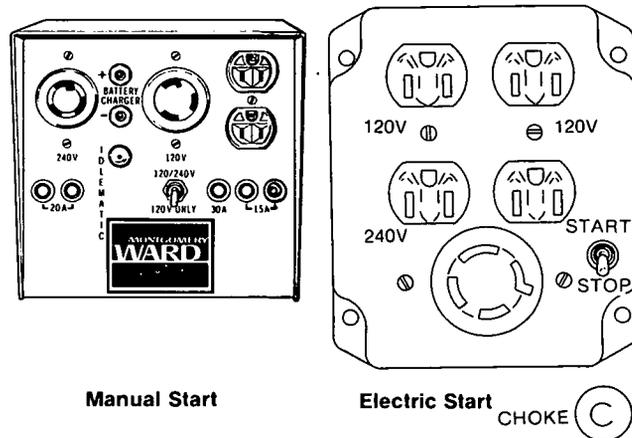

FIGURE 2. RECEPTACLE PANELS
1. Pull choke control all the way out unless the engine is already warm from previous operation. Manual start models have the choke knob located near the front of the engine. Electric start models have the choke knob located near the receptacle panel as shown in Figure 2.
Refer to Figure 2 for the location of the Start/Stop switch and choke control. Use the following procedure to start the engine:
If practical, allow the alternator to warm up before connecting a load. Receptacles are located on a panel on the end of the alternator as shown in Figure 2. Connect the load by inserting the load wire plugs into the proper output receptacle. Use the receptacle (120 volt **duplex**, 120 volt **twist lock**, or 240 volt **twist lock**) that corresponds to the equipment plug.